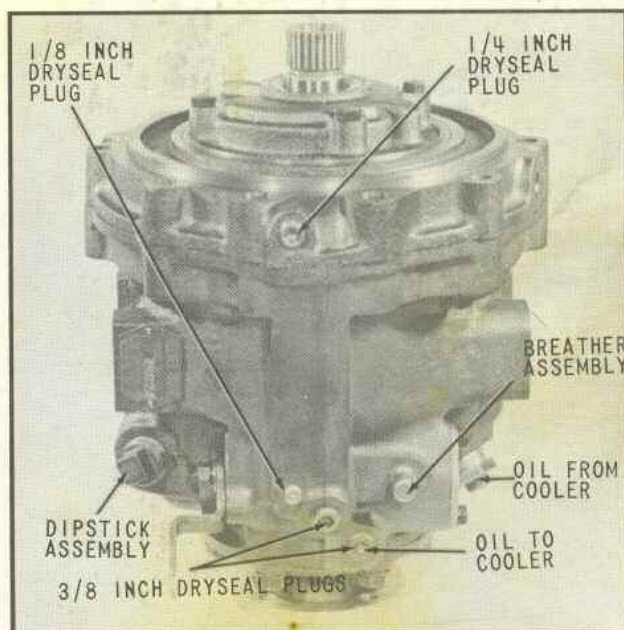

Fig. 80 Installation of Miscellaneous Pipe Plugs
81. Install 3/8-18, 1/4-18 and 1/8-27 dryseal plugs, (Fig. 80) and torque to values indicated on page 62.